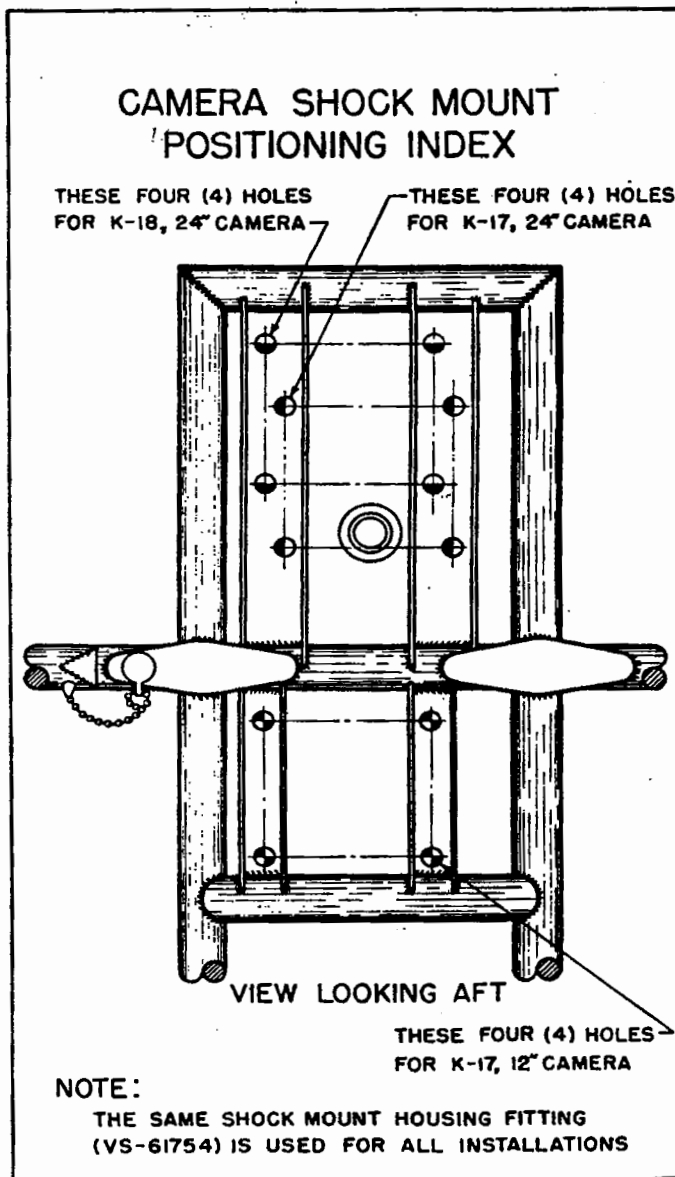

Figure B-9. Camera Shock Mount Positioning Decal.
- c. Install the camera shock mount housings in the proper hole location in the fore and aft vertical members of the adapter to accommodate the particular camera to be used. A decalcomania (see figure B-9), located over the camera compartment access door, indicates the position in which various cameras should be installed in the adapter. The shock mount housings, which support the camera and its shock mounts in the adapter, are secured to the adapter by four bolts. Three camera locations are indicated in the adapter by the decalcomania; four bolt holes are for the installation of the K-18, 24 inch camera and four bolt holes are for the K-17, 24 inch camera; all bolt holes are above the adapter trunnions. These holes are drilled in supporting channels to which the adapter trunnions are attached. Four additional bolt holes for mounting the K-17, 12 inch camera are located in the channels below the adapter trunnions. To install the camera in any of the
f. Raise the camera and lower the camera trunnions and shock mounts into the bottom halves of the fore and aft shock mount housings previously located on the adapter in accordance with instructions contained on the decalomania over the access door (*see figure B-9*).